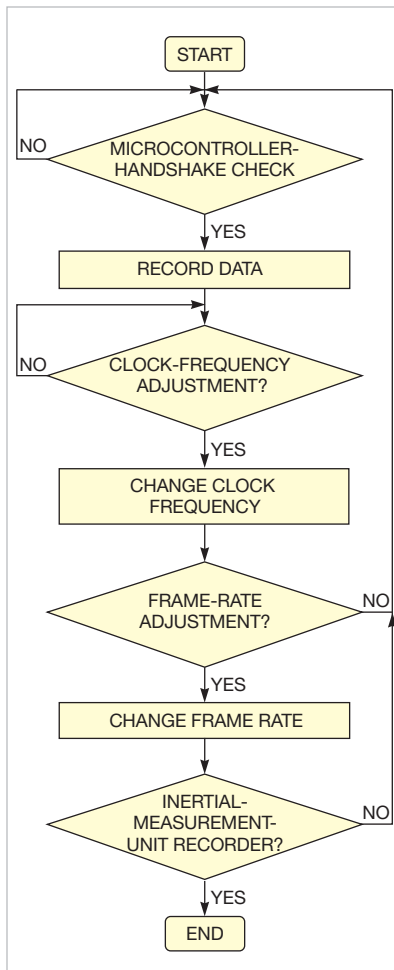

**Figure 2** This aerial photograph from a height of 7000 feet was taken during a flight over Mailiao Township, Yunlin County, Taiwan.
a low pullup (**Figure 2**). You can also preset the hue of the LED, which appears at power-on. For a high Preset, the color is 100% red when you apply power. At a low Preset, a midposition is preset at the resistive DAC and thus
**Figure 2** The light output changes quasicontinually from red to green within approximately 8 seconds, using long-term grounding of the pullup pin or a continuous grounding of the pin at power-on.
The external trigger pulses also control the sensors, GPS, and inertial-measurement unit. **Figure 2** shows a photo taken at 7000 feet in Mailiao Township, Yunlin County, Taiwan, using the external trigger circuit to drive and combine with the linear sensor and the measurement unit.